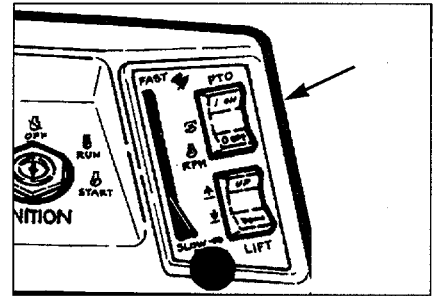

Figure 2-11: After an attachment is installed, turn the PTO Attachment Drive Switch ON and OFF about a dozen times to complete the "break-in" procedure.
c. Engage and disengage the tractor's PTO Attachment Drive Switch 10 or 15 times. Refer to Figure 2-11. Be certain the attachment is neither cutting grass nor blowing snow while you perform this break-in procedure.